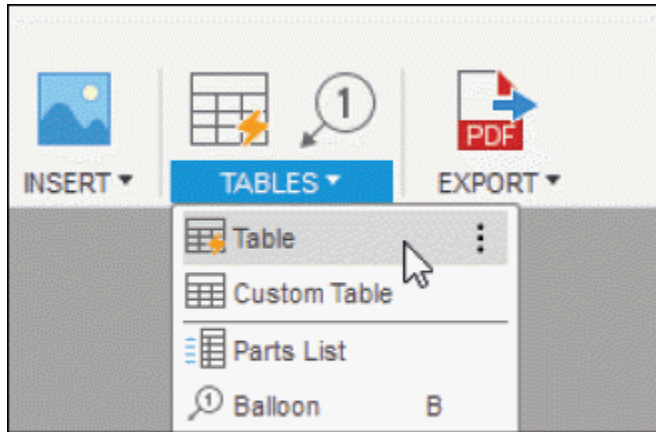
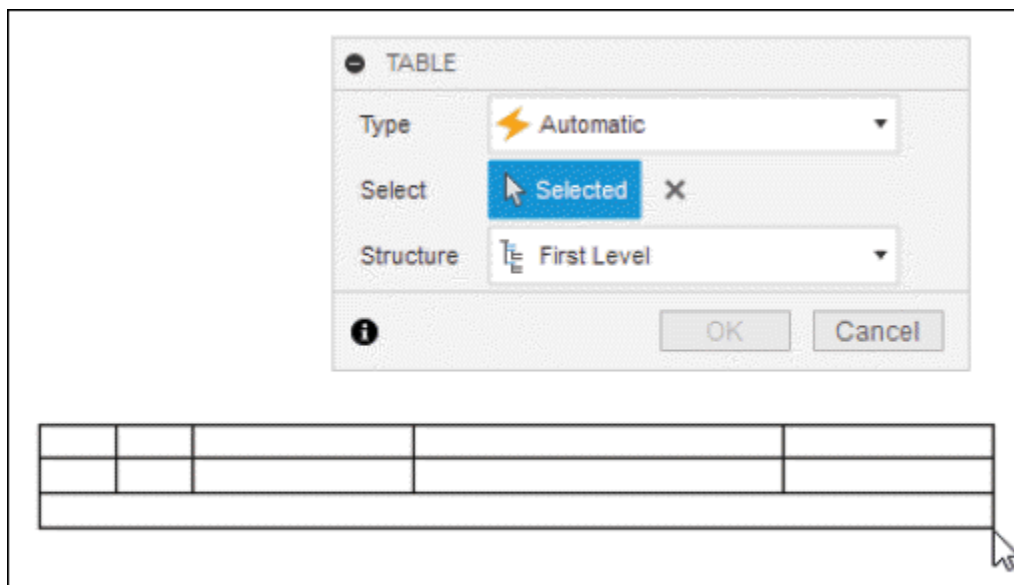

Figure-108. Table tool
Figure-109. TABLE dialog box along with empty table
Toolbar; refer to Figure-108. The **TABLE** dialog box will be displayed along with attached empty table; refer to Figure-109.
- Here, we are selecting the **Parts List** option from **Type** drop-down of dialog box or click **Parts List** tool from **TABLES** drop-down in the **Toolbar**; refer to Figure-108.